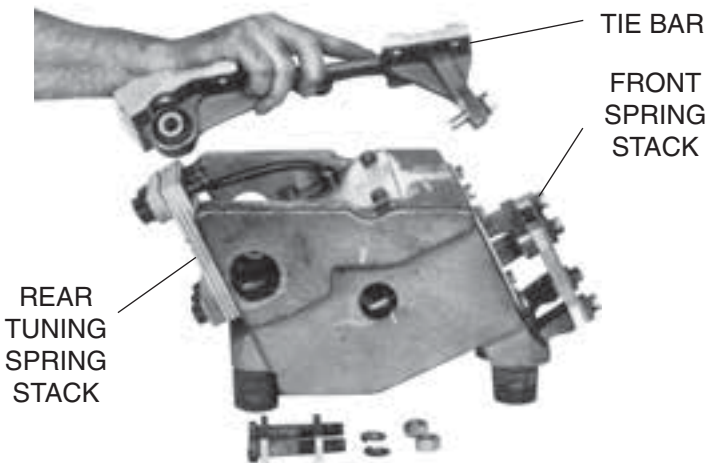

FIGURE 7
2. Remove, in order, the bolts securing (a) the upper end of the rear tuning spring stack to the tiebar, (b) the lower ends of the spring lever arms to the body housing, and (c) the lower end of the tiebar to the spring bar. Lift the tray-tiebar-lever assembly away from the body housing. (Fig. 7)